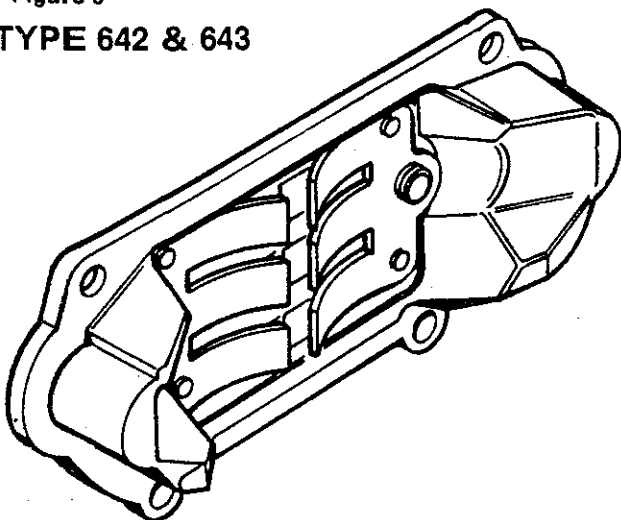

Figure 10
- (2) On type 642 and 643 engines, the reeds are riveted to plate and should not be removed. (See Figure 10.)